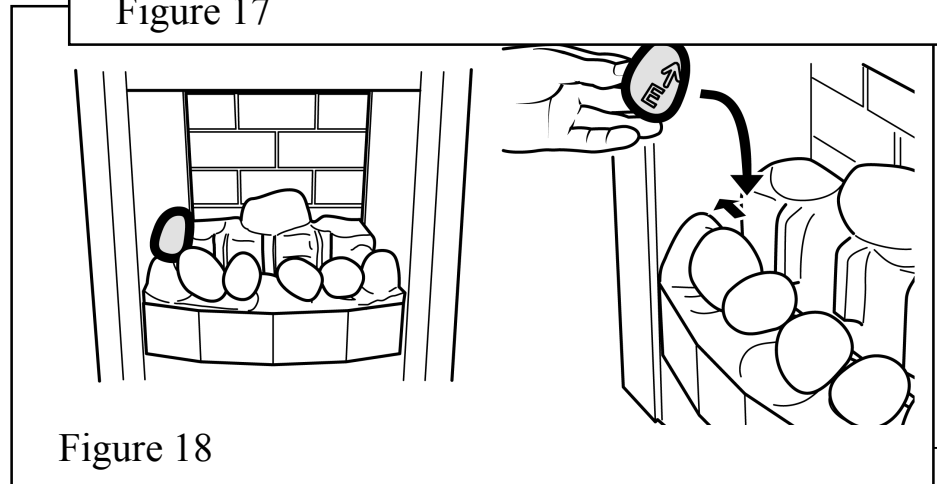

Figure 18
7. Hold pebble 'E' upright with the arrow pointing to the top. Place pebble 'E' between the front and rear base pebbles. It should rest against the side of the firebox. (See figure 18).